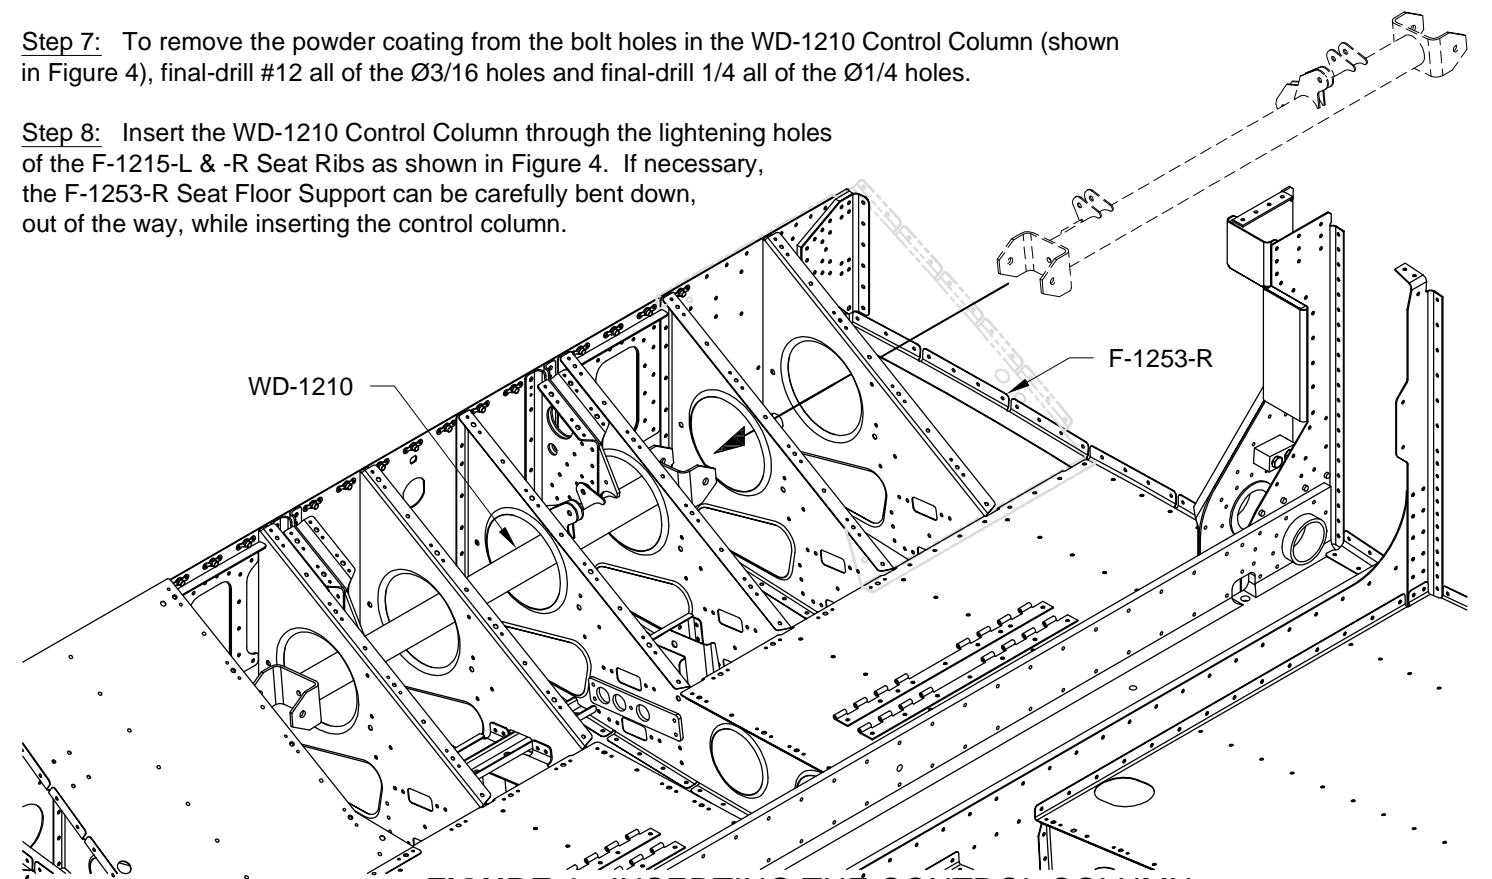

FIGURE 4: INSERTING THE CONTROL COLUMN
Step 7: To remove the powder coating from the bolt holes in the WD-1210 Control Column (shown in Figure 4), final-drill #12 all of the Ø3/16 holes and final-drill 1/4 all of the Ø1/4 holes.
Step 8: Insert the WD-1210 Control Column through the lightening holes of the F-1215-L & -R Seat Ribs as shown in Figure 4. If necessary, the F-1253-R Seat Floor Support can be carefully bent down, out of the way, while inserting the control column.